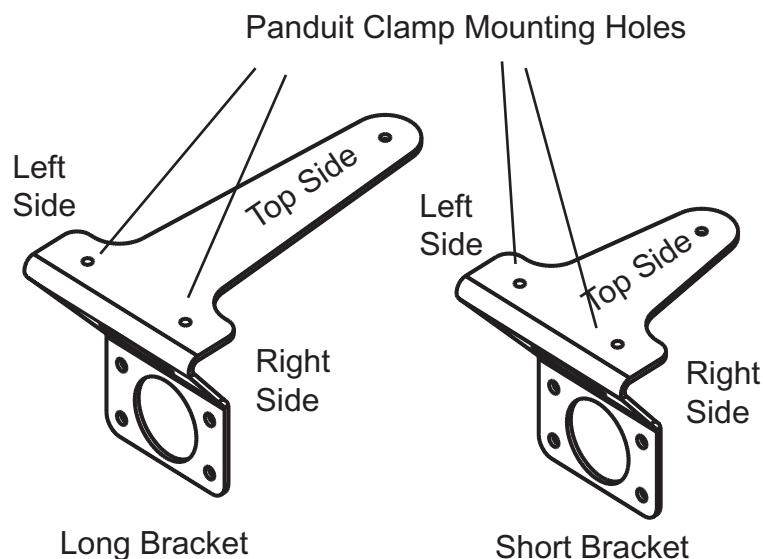

Figure 1 - Cable Clamp Brackets
- 3.) Attach one (1) panduit cable clamp to the top side of the four (4) brackets. See Figure 1.
- b.) Attach one (1) panduit clamp, open or locking end, facing the left side of both the short and long brackets.
- c.) Attach one (1) panduit clamp, open or locking end, facing the right side of both the short and long brackets.